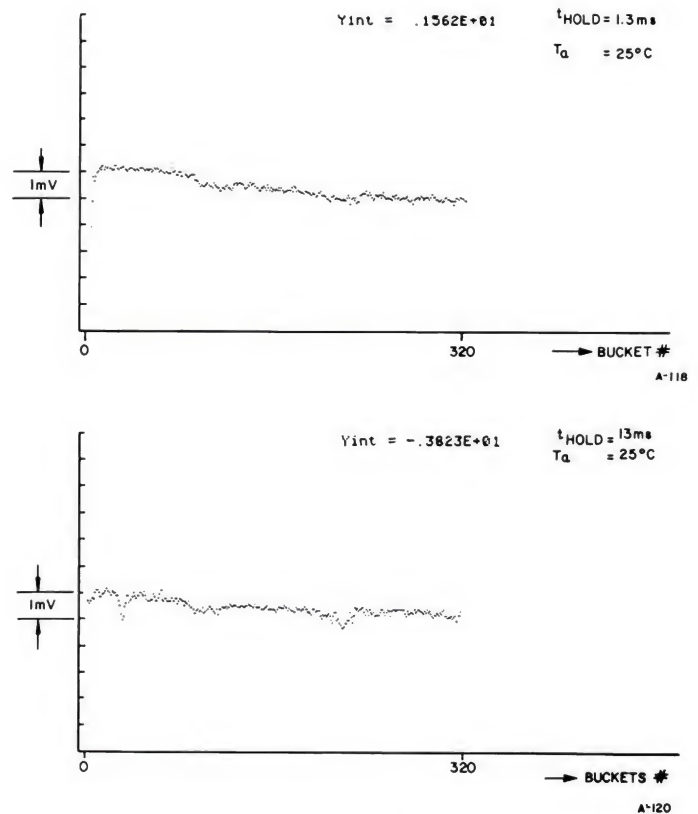

Figure 12
Both of these effects are a result of charge leakage in the CCD shift register. The Rate of Signal Offset (RSO) is a droop of the baseline which is linear with storage time. The output of an MVV200 channel moves towards V_{SS} as the storage time increases. This is noticeable in Figure 12.
The Spatial Noise (SN) is a consequence of cell to cell variations of RSO: It is a result of geometrical factors in the chip layout. Typical results of Spatial Noise measurements are shown in Figure 12. These are the response of the MVV200 for a DC level input. Here SN is the deviation from the "ideal RSO straight line". Note that the SN is more prominent in the upper figure when determining the response of the MVV200. SN is also affected by temperature. A good rule of thumb is that SN doubles for each $10^{\circ}C$ increase.